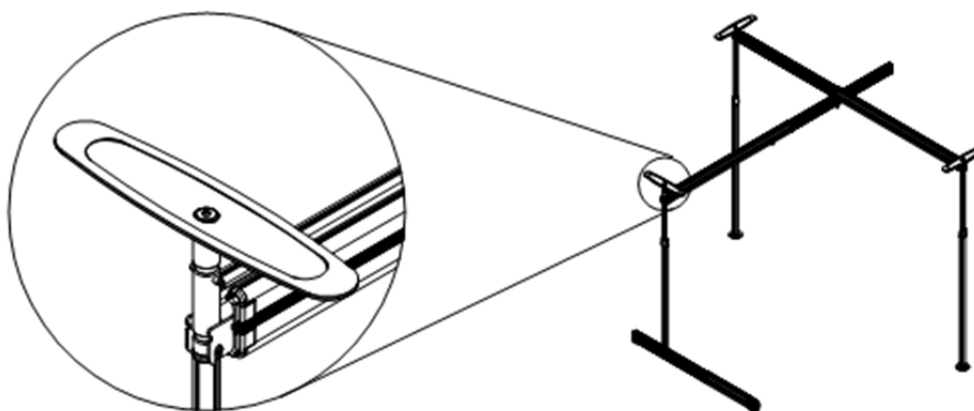

Figure 24
b) For the 3-post assembly with the bath bracket installed on pivoting rail. Use the lower set of pins (see Figure 24).